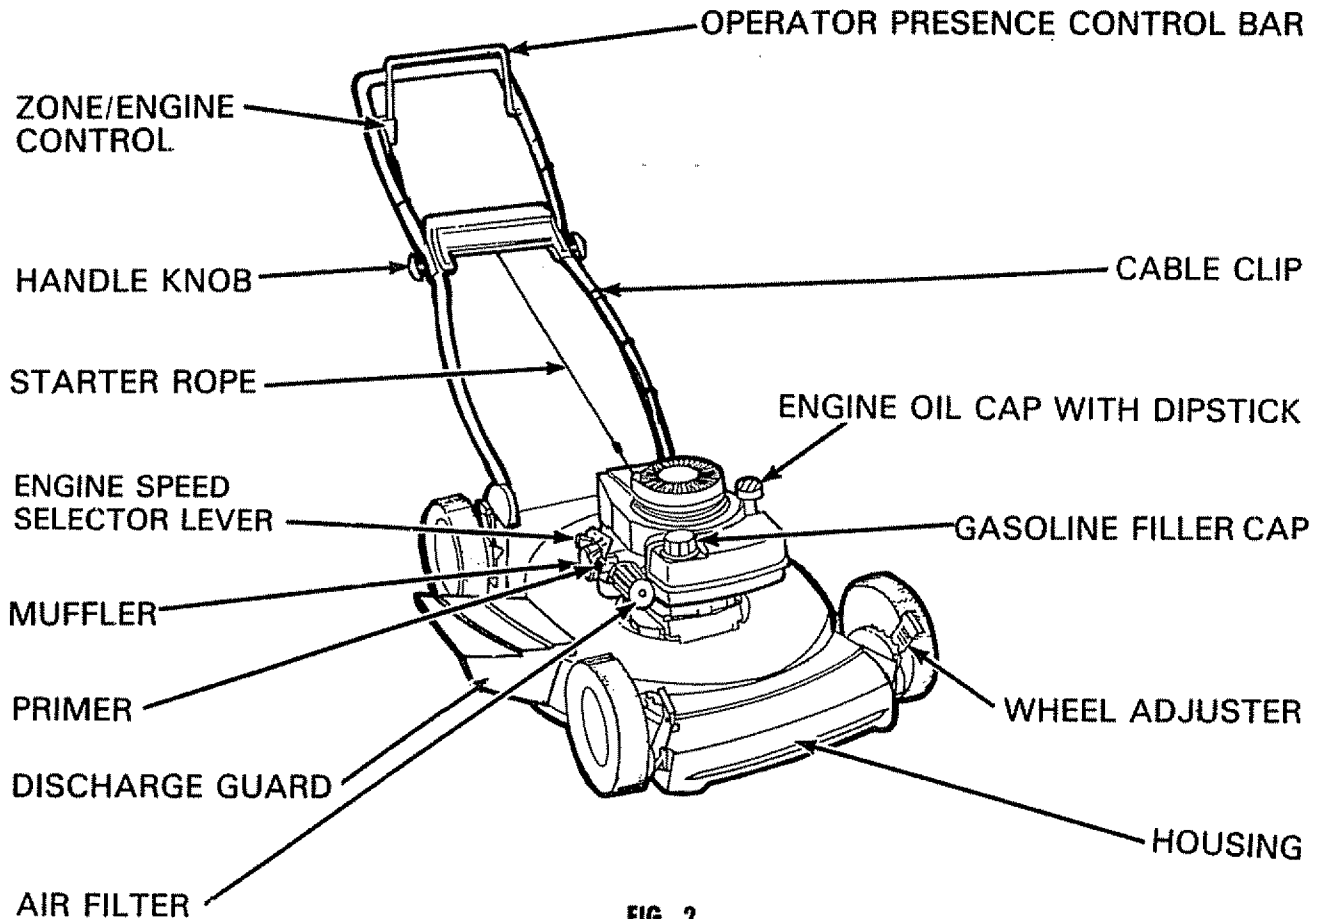

FIG. 2
- Fill gasoline tank with fresh, clean unleaded gasoline. DO NOT USE PREMIUM GASOLINE. BE CAREFUL NOT TO OVER FILL TANK (SEE FIG. 2).